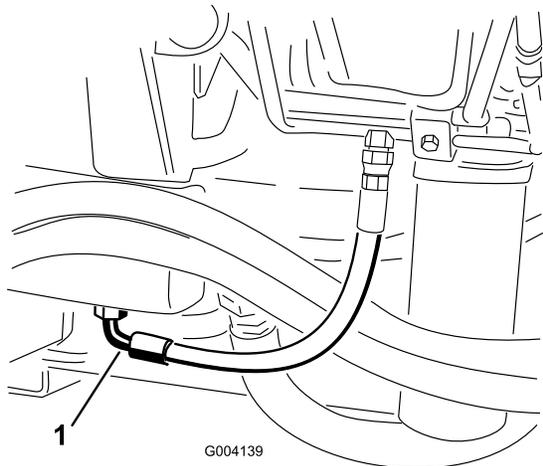

Figure 88
2. Place a large drain pan under the fitting secured to the bottom of the hydraulic fluid reservoir (Figure 88).